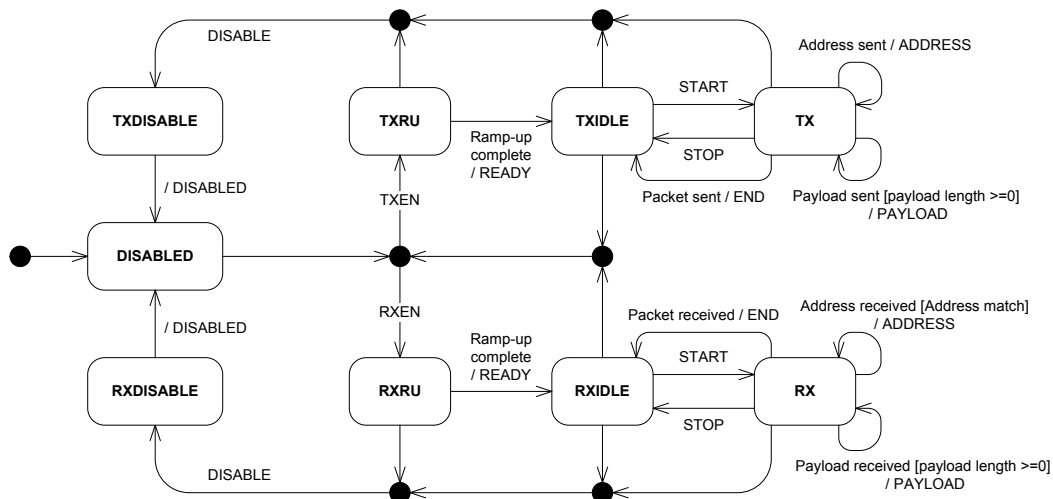
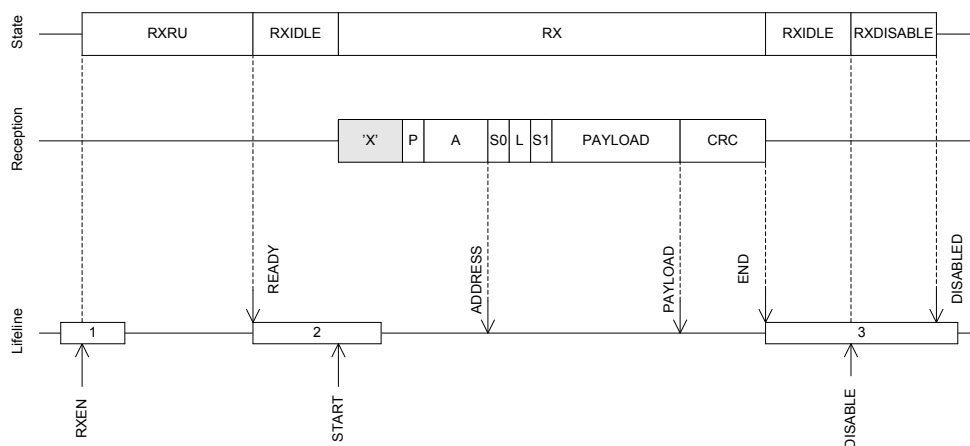

Figure 34: Radio states
Figure 38: Receive sequence
The RADIO can enter the states described the table below. An overview state diagram for the RADIO is illustrated in *Figure 34: Radio states* on page 209. This figure shows how the tasks and events relate to the RADIO's operation. The RADIO does not prevent a task from being triggered from the wrong state. If a task is triggered from the wrong state, for example if the RXEN task is triggered from the RXDISABLE state, this may lead to incorrect behaviour. As illustrated in *Figure 34: Radio states* on page 209, the PAYLOAD event is always generated even if the payload is zero.
See TXRU in *Figure 34: Radio states* on page 209 and *Figure 35: Transmit sequence* on page 210. A TXRU ramp-up sequence is initiated when the TXEN task is triggered. After the radio has successfully ramped up it will generate the READY event indicating that a packet transmission can be initiate. A packet transmission is initiated by triggering the START task. As illustrated in *Figure 34: Radio states* on page 209 the START task can first be triggered after the RADIO has entered into the TXIDLE state.
See RXRU in Figure 34: Radio states on page 209 and Figure 38: Receive sequence on page 211.
An RXRU ramp-up sequence is initiated when the RXEN task is triggered. After the radio has successfully ramped up it will generate the READY event indicating that a packet reception can be initiated. A packet reception is initiated by triggering the START task. As illustrated in Figure 34: Radio states on page 209 the START task can, first be triggered after the RADIO has entered into the RXIDLE state.
Figure 38: Receive sequence on page 211 illustrates a single packet reception where the CPU manually triggers the different tasks needed to control the flow of the RADIO, i.e. no shortcuts are used. If shortcuts are not used, a certain amount of delay, caused by CPU execution, is expected between READY and START, and between END and DISABLE. As illustrated Figure 38: Receive sequence on page 211 the RADIO will be listening and possibly receiving undefined data, illustrated with an 'X', from START and until a packet with valid preamble (P) is received.
A slightly modified version of the receive sequence from Figure 38: Receive sequence on page 211 is illustrated in Figure 39: Receive sequence using shortcuts to avoid delays on page 212 where the RADIO is configured to use shortcuts between READY and START, and between END and DISABLE, which means that no delay is introduced.